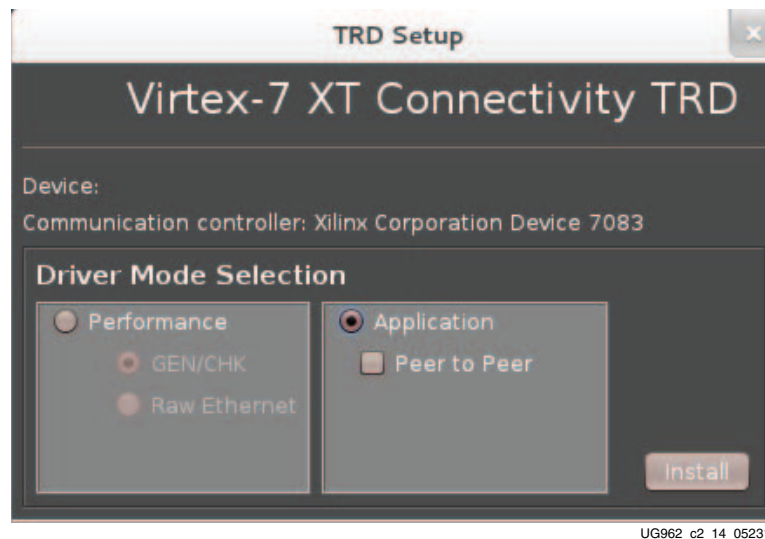

Figure 2-18: Application Mode Driver Installation
1. In the Driver Mode Selection area select **Application** (Figure 2-18).